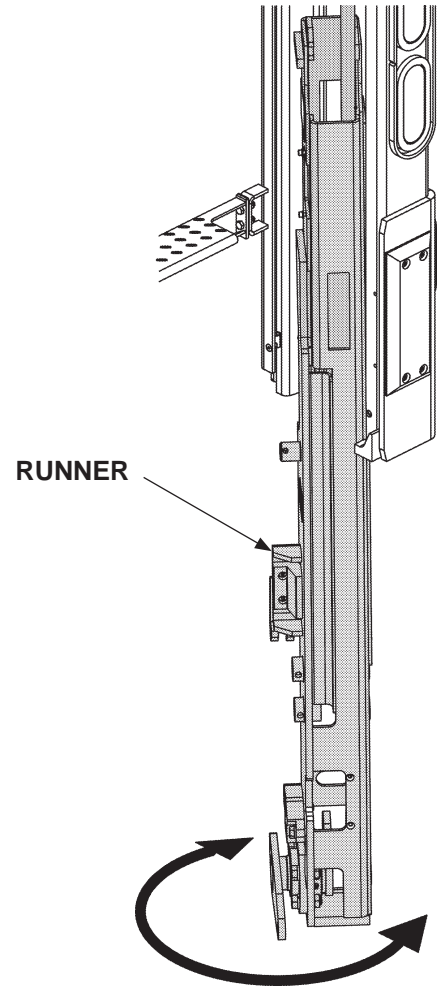

FIG. 32-1
19. Twist and walk runner out of column (FIG. 32-1). Then lay runner and cylinder on the ground.